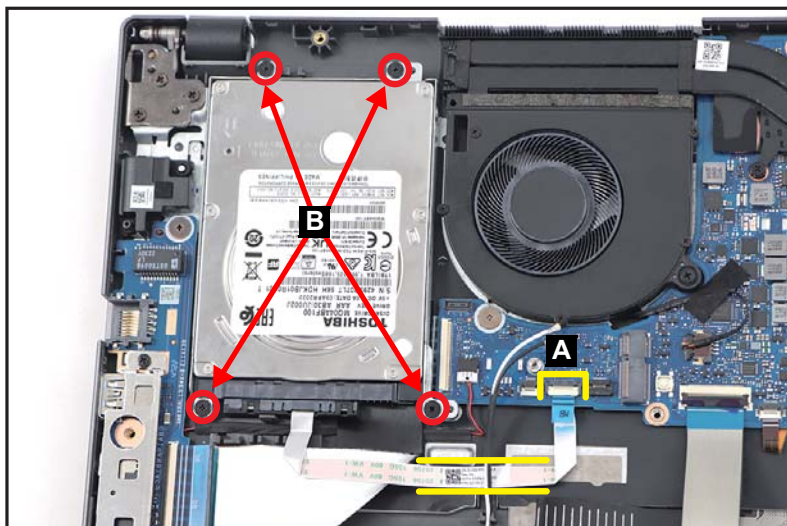

Figure 1-27. HDD Module Removal
1. Disconnect the HDD cable from the mainboard connector (A). Then carefully detach the FFC from its underneath adhesive as shown in Figure 1-27.
2. Remove four (4) screws (B) securing the HDD bracket (Figure 1-27).